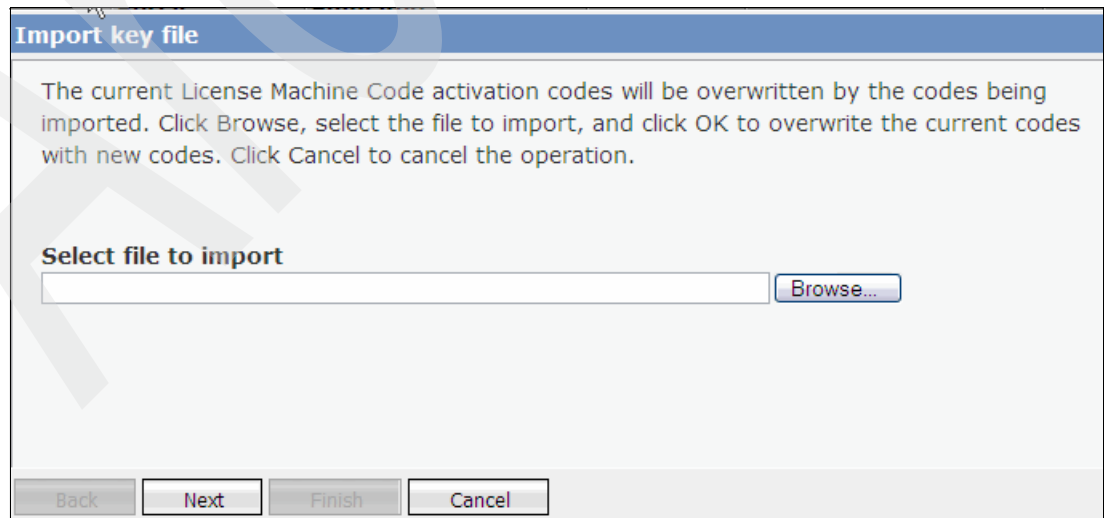

Figure 10-12 Apply Activation Codes by importing the key from the file
- The easiest way is to import the activation key from the file, as shown in Figure 10-12.